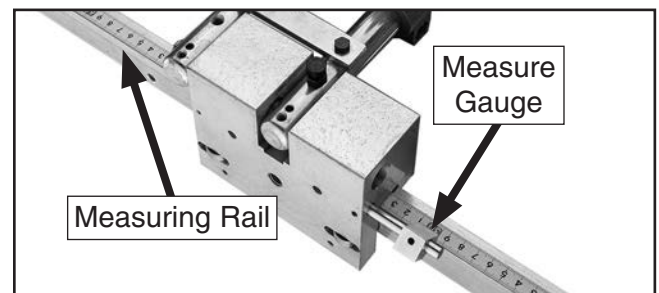

Figure 6. Assembled carriage and rail (roller table removed for clarity).
5. Slide carriage onto measuring rail. Measure gauge on carriage should depict measuring numbers, or carriage is backwards (see **Figure 6**).